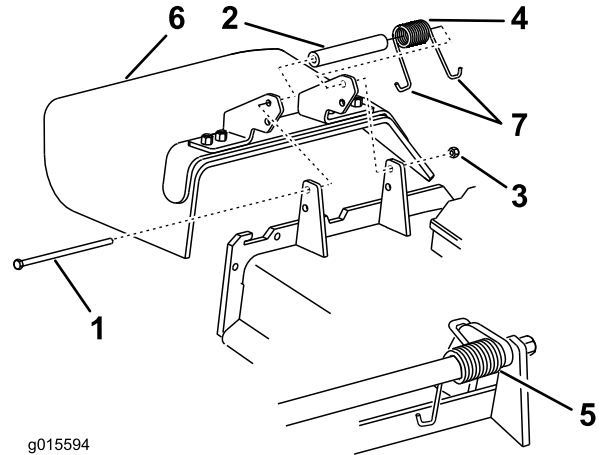

Figure 21
4. Remove the locknut, bolt, spring, and spacer holding the deflector to the pivot brackets (Figure 21).
5. Remove the grass deflector (Figure 21).